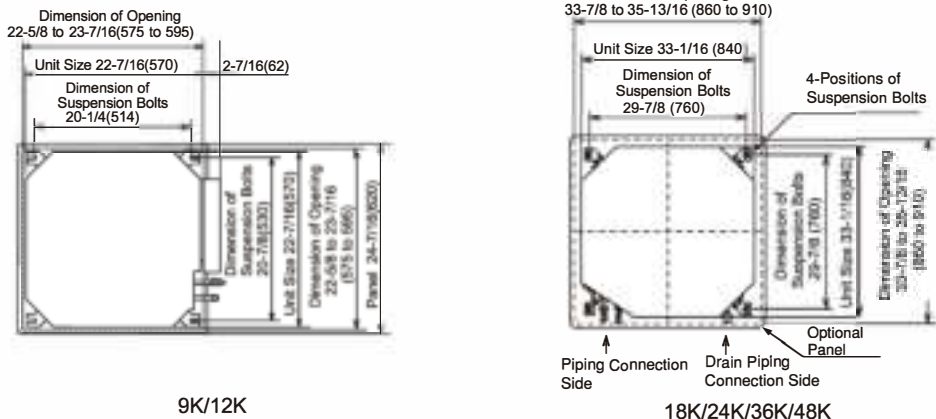

Fig. 3.2 Opening of False Ceiling and Suspension Bolts
(2) Cut out the area for the indoor unit in the false ceiling and install suspension bolts, as shown in Fig. 3.2.